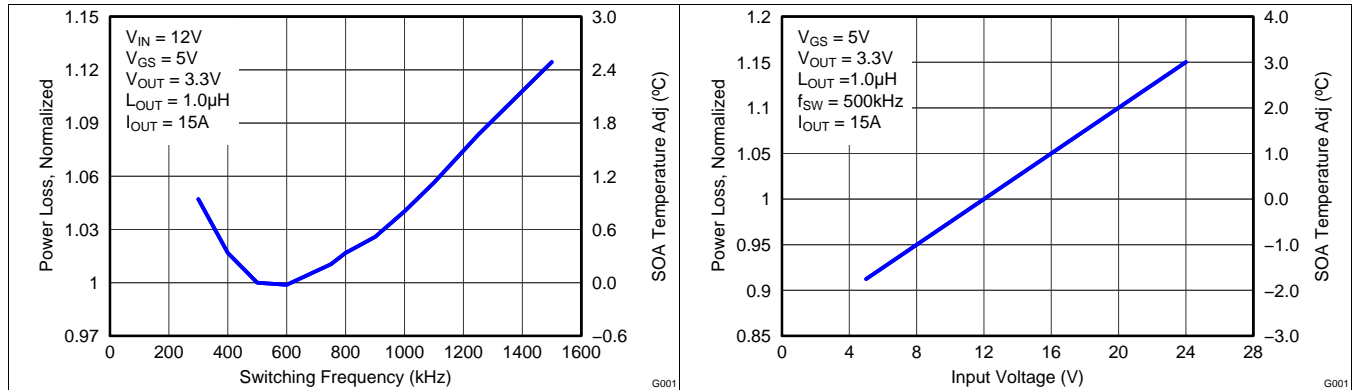

Figure 6. Normalized Power Loss vs Switching Frequency
- Normalized Power Loss for switching frequency ≈ 1.04 (Figure 6)
- SOA adjustment for switching frequency $\approx 0.8^\circ\text{C}$ (Figure 6)